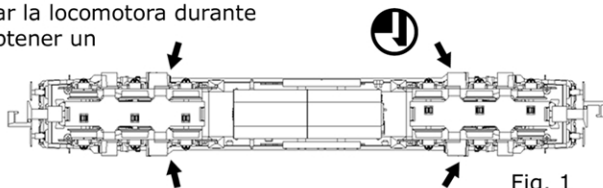

Fig. 1
- Soltar las 4 sujeciones de la carcasa (Fig.1)
- Disengage the body from four fastening (Fig.1)